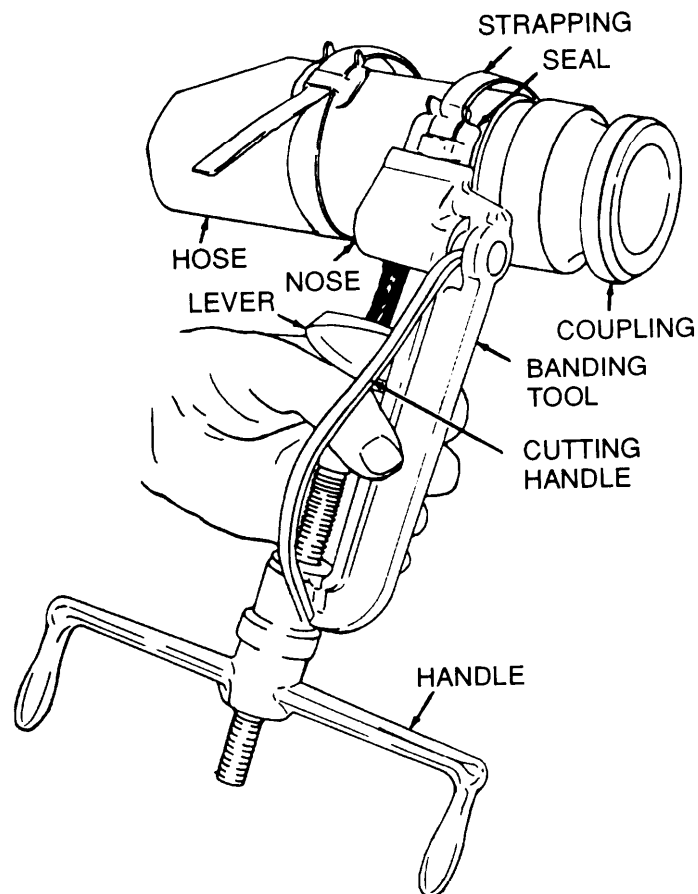

Figure 4-7. Hose Assembly Repair.
b. Repair. (Refer to Figure 4-7.)
- (1) Cut strapping and remove damaged coupling.
- (2) If hose is damaged within 10 feet (304.8 cm) of end of hose, cut strapping material and remove coupling.
- (3) Cut hose and remove damaged area.
- (4) Insert new coupling in hose.
- (5) Slide seal on strapping material and bring end of strapping around hose adjacent to barb on coupling shank. Wrap strapping around hose twice and again run end through the seal.
- (6) Place strapping in open slot of banding tool nose and slide in.
- (7) With thumb on band gripper lever, apply tension by turning handle of tool. After tension is created, it is no longer necessary to hold band gripper lever as it locks itself under tension.
- (8) Place finger on strapping material at seal bridge while tensioning with tool handle. (Turn handle clockwise).